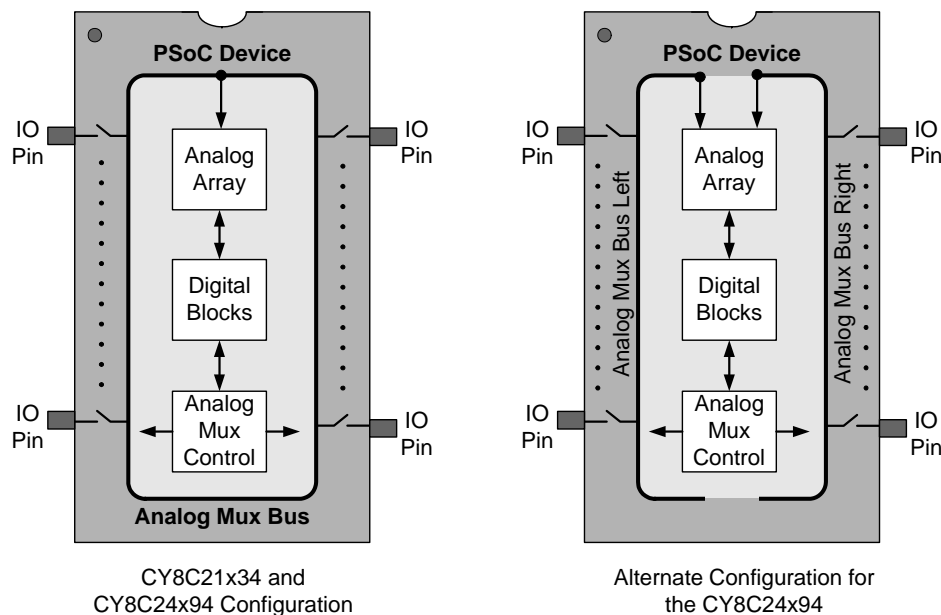

Figure 33-1. Analog Mux System for the CY8C24x94, CY8C21x34, CY7C64215, CY7C603xx, and CYWUSB6953
Any number of pins can be connected simultaneously, and dedicated support circuitry allows selected pins to be alternately charged high or connected to the bus. The analog bus can be connected as an input into either the positive or negative inputs of any analog continuous time (CT) block. A block diagram is shown in Figure 33-1.
In the CY8C24x94 and CY7C64215 PSoC devices, the Analog Mux Bus can be split into two separate nets, as shown in Figure 33-1. The two analog mux nets can be connected to different analog columns for simultaneous signal processing.
The analog bus forms a multiplexer across many IO pins. This allows any of these pins to be brought into the analog system for processing, as shown in Figure 33-1. The Port 0 pins are also brought through separate mux paths to the continuous time block, so Port 0 inputs can be routed to the analog system by either path. In the CY8C24x94 and CY7C64215, some Port 2 inputs have a dedicated path to switched capacitor blocks.
The bidirectional nature of the analog mux switches allows a direct connection between any of the IO pins, as shown in Figure 33-1. Enabling two (or more) pins at the same time connects these pins together, with approximately 400 ohms of resistance between each pin and the analog mux bus. As long as the clock choice in the AMUX_CFG register is set to the fixed '0' case, the switches will be static, controlled only by the state of the individual switch enable bits in the MUX_CRx registers. The crosspoint can be reconfigured at any time and the user can provide a break-before-make function with firmware if needed.